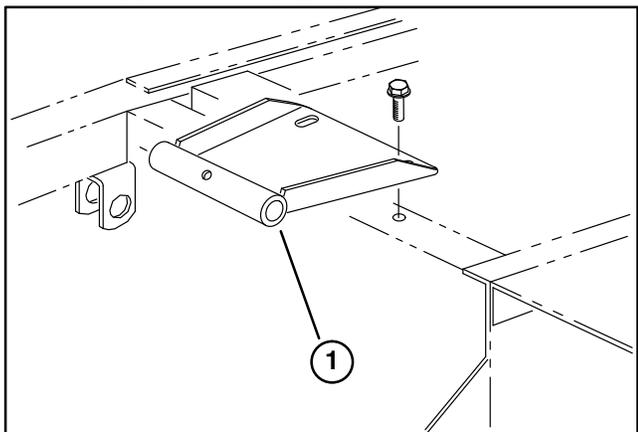

Figure 5
12. Mount seat pivot bracket to frame with (2) flange screws supplied in kit (Fig. 5).
14. Mount seat pivot bracket to frame with (2) flange screws supplied in kit (Fig. 5)